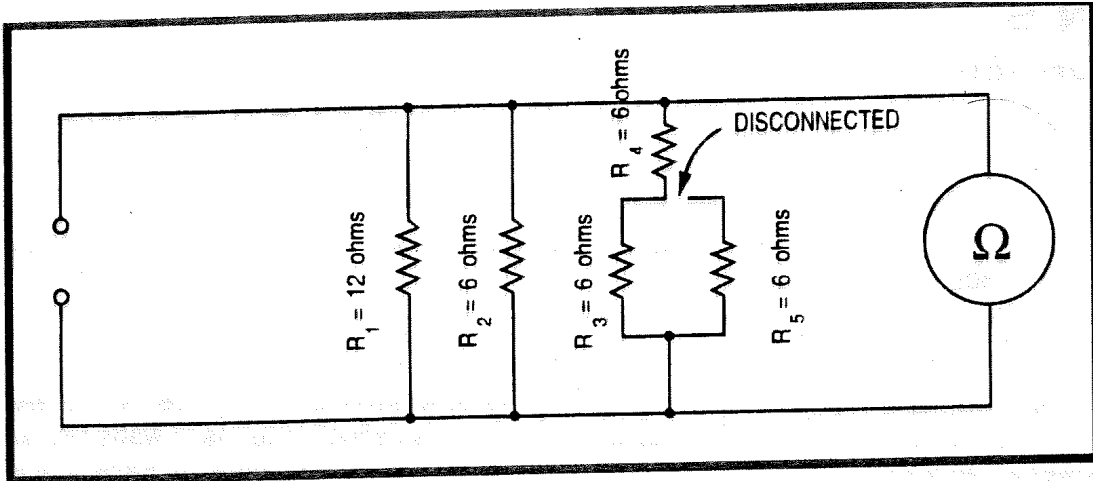

Fig. 9.5. Circuit Diagram.
22. (Refer to figure 9.5) If resistor  $R_5$  is disconnected at the junction of  $R_4$  and  $R_3$  as shown, what will the ohmmeter read ?